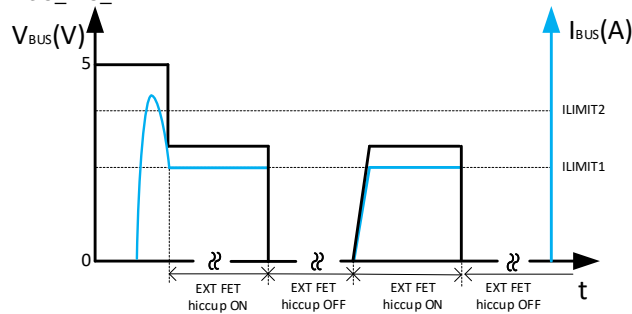

图 10-20. Two Level Current Limit Methodology with ext MOSFET Case 3
- Case 3: If the load current $I_{BUS} > I_{LIMIT2}$, the external MOSFET will current limit to I_{LIMIT1} immediately, then enter hiccup mode with 2 ms of on-time and 263 ms of off-time, as shown in 图 10-20. When the load current $I_{BUS} < I_{LIMIT1}$ for $t_{OC_HIC_RST}$, the external MOSFET will resume always on.